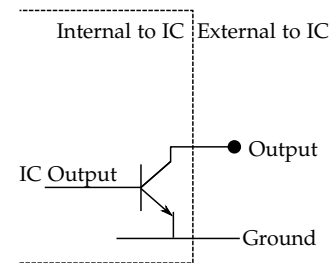

Figure 4: A simple schematic of an open collector of an integrated circuit (IC).
An open collector is a common type of output found on many integrated circuits (IC), see figure 4.